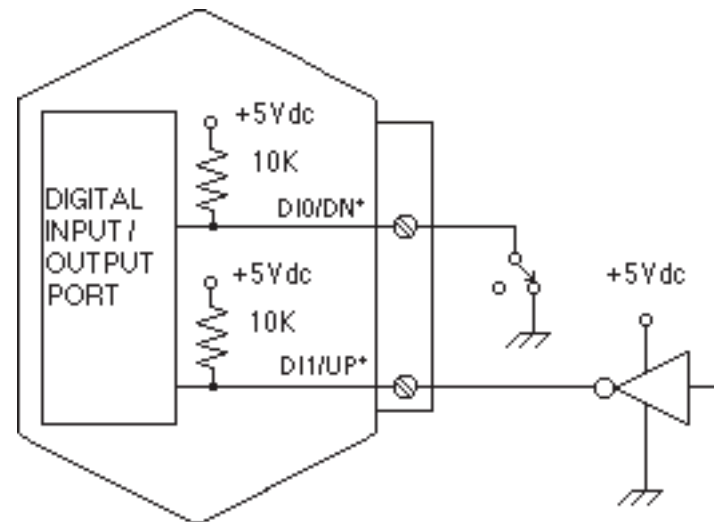

Figure 6.1 Digital Inputs.
The inputs are protected to voltages up to  $\pm 30V$  and are normally pulled up to the logic "1" condition (see Figure 6.1). Digital inputs can be read with the Digital Input (DI) command. Voltage inputs less than 1V are read back as '0'. Signals greater than 3.5V are read as '1'.